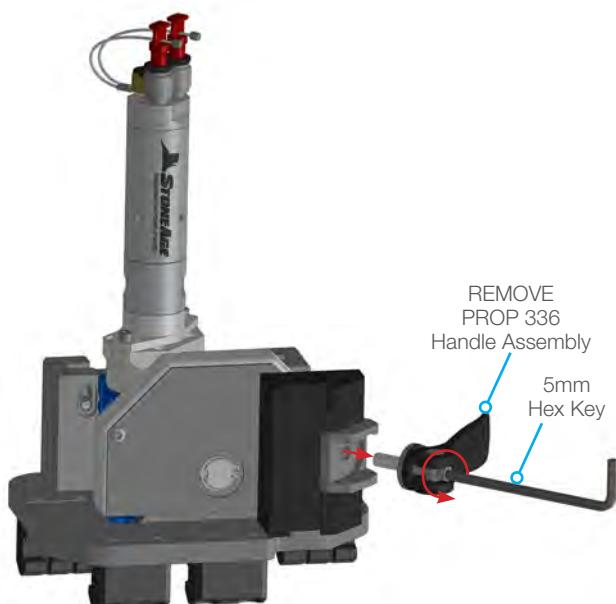

FIGURE 11
1. Remove the PROP 336 Handle Assembly with a 5mm Hex Wrench. (Figure 11)